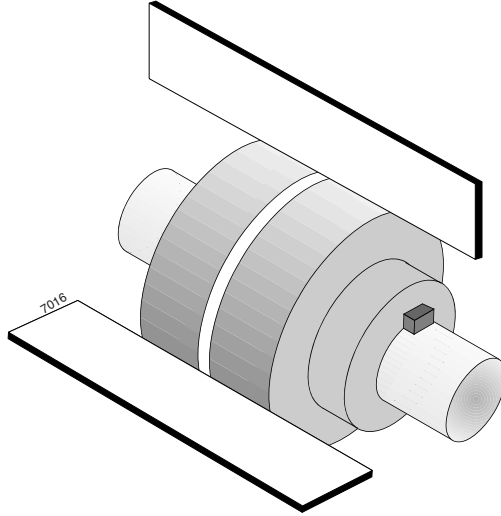

Figure 1
1. Place a ruler over the coupling. The ruler must touch the coupling halves over the entire width, see figure 1.